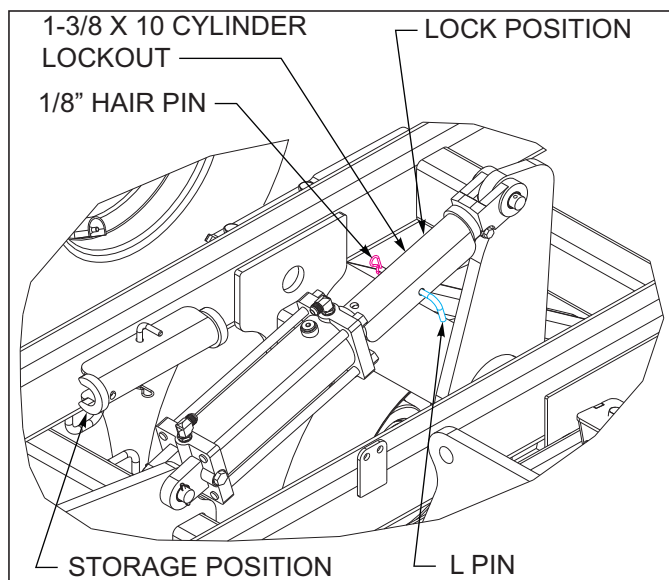

Figure 4-2: Cylinder Lockout Locations
- c. With all cylinders fully extended, remove the cylinder lockouts **See Figure 4-2**. Lower and raise the unit to verify that all cylinders are working simultaneously throughout the stroke.